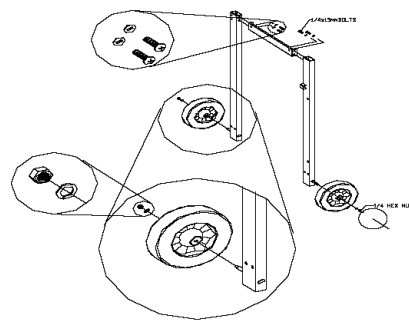

Figure 2
2. Assemble right back cart leg to cart frame beam using (2) 1/4 x 3/8" Phillips head screws with (2) 1/4" lock washers. Repeat the same step for right front cart leg to cart frame beam. Then assemble 2 wheels by using (2) 1/4" hex nuts with (2) 1/4" flat washers. Then snap the wheel caps onto the wheel hubs. (Fig.2)